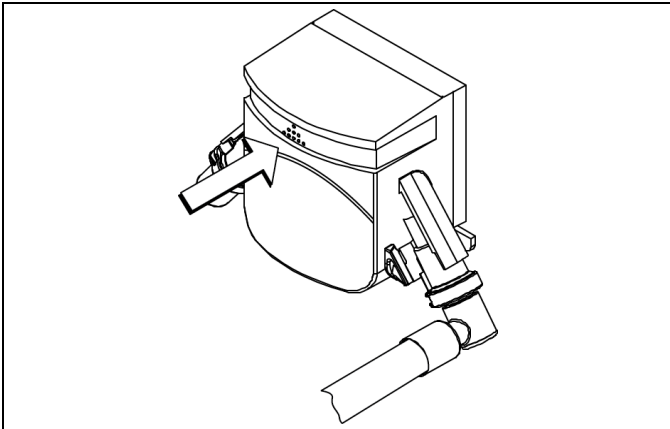

Figure 6-127
11. Open the pump by pushing up on the hinged cover. (See Figure 6-127.)